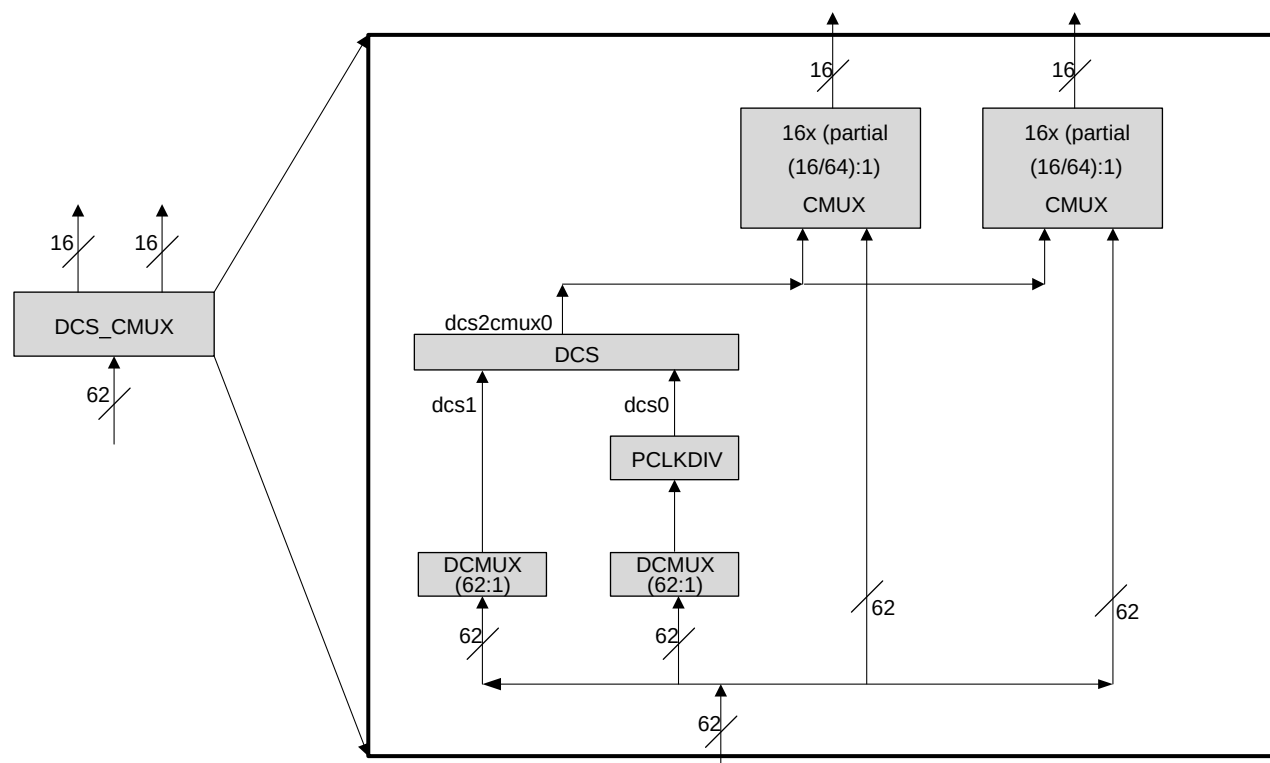

Figure 2.8. DCS_CMUX Diagram
The PCLKDIV supports $\div 2$, $\div 4$, $\div 8$, $\div 16$, $\div 32$, $\div 64$, $\div 128$, and $\div 1$ (bypass) operation. The PCLKDIV is fed from a DCSMUX within the DCS_CMUX block. The clock divider output drives one input of the DCS Dynamic Clock Select within the DSC_CMUX block. The Reset (RST) control signal is asynchronous and forces all outputs to low. The divider output starts at next cycle after the reset is synchronously released. The PCLKDIV is shown in context in Figure 2.8.
All clock sources are selected and combined for primary clock routing through the Dynamic Clock Selector Center Multiplexer logic (DCS_CMUX). There are one (1) or two (2) DCS_CMUX blocks per device. Each DCS_CMUX block contains 2 DCSMUX blocks, 1 PCLKDIV, 1 DCS block, and 1 or 2 CMUX blocks. See Figure 2.8 for a representative DCS_CMUX block diagram.